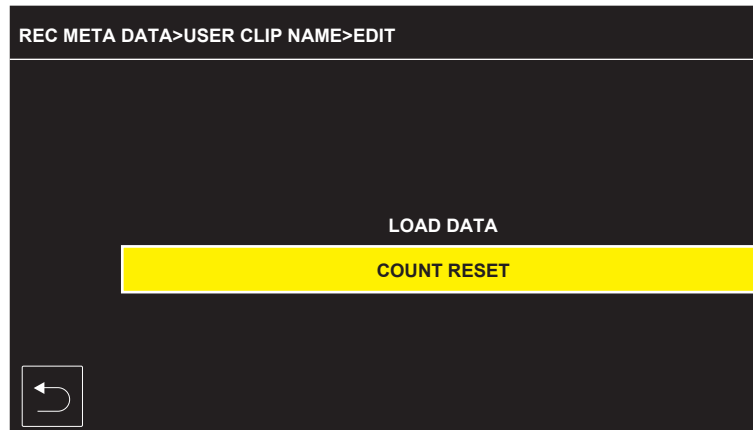

Fig. 1
- 3** Move the cursor to [COUNT RESET]. (Fig. 1)